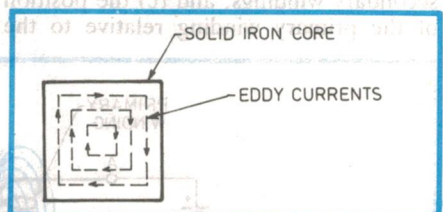

Fig.11: In a solid iron core, the changing magnetic flux causing 'eddy' currents to flow.
(3) **EDDY CURRENT LOSSES:** In a solid iron core, large circulating currents (see Fig.11) occur in the iron. These are called *eddy currents*. In a solid core, eddy currents heat up the core, wasting energy and possibly damaging the trans-